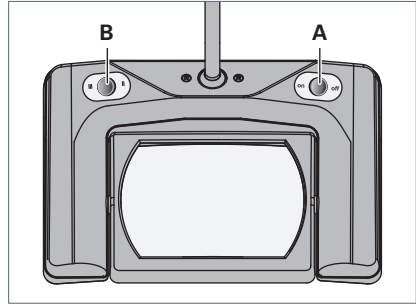

Fig. 6: Rocker switch.
- To switch the luminaire on or off, press the rocker switch **A**, see Fig. 6.
- To switch the light segment **A** on or off, press the rocker switch **B**, see Fig. 6.